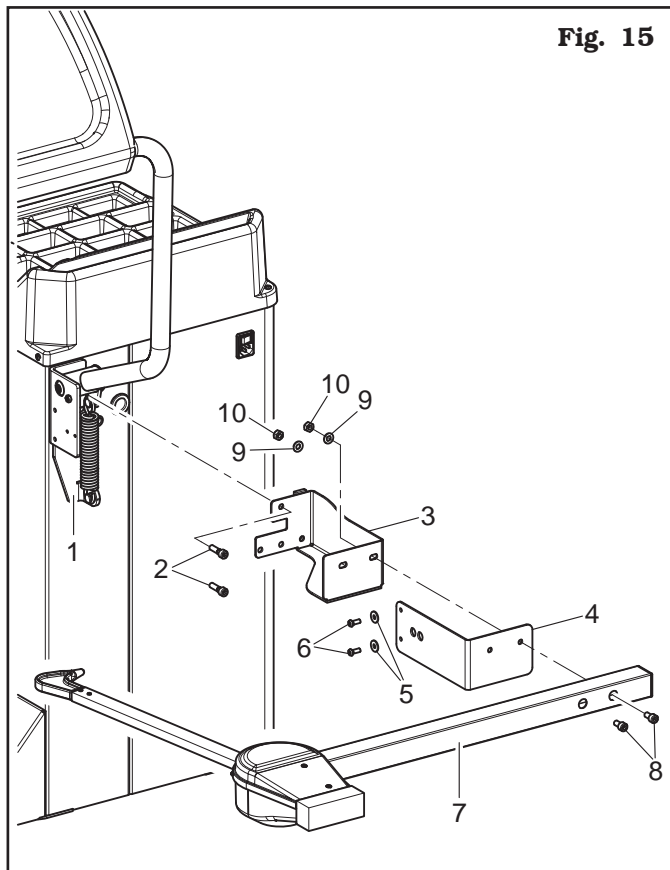
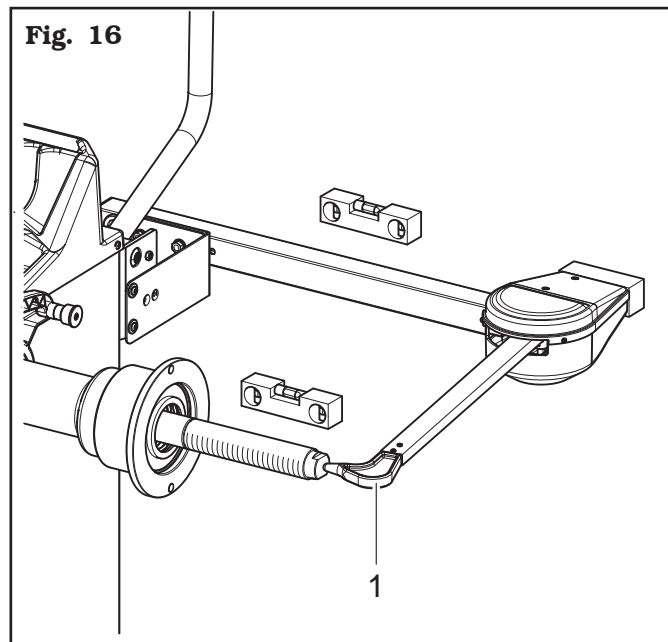

Fig. 15
Fig. 16
1. Unscrew the 2 screws (in vertical position) of the protection guard support (**Fig. 15 ref. 1**) (if present) being very careful about holding the same support.
2. Introduce the 2 screws (**Fig. 15 ref. 2**) to the gauge bracket (**Fig. 15 ref. 3**) and screw them onto the special threaded inserts placed on the rear side of the frame. Fasten the bracket (**Fig. 15 ref. 4**) to the protection guard support with the washers (**Fig. 15 ref. 5**) and the 2 screws (**Fig. 15 ref. 6**). Lock the gauge arm (**Fig. 15 ref. 7**) to the brackets (**Fig. 15 ref. 34**) using the 2 screws (**Fig. 15 ref. 8**), the washers (**Fig. 15 ref. 9**) and the nuts (**Fig. 15 ref. 10**), so that the shaft and the gauge arm are levelled (see **Fig. 16**).
3. Make sure the gauge tip is positioned at the centre of the mandrel (**Fig. 16 ref. 1**).